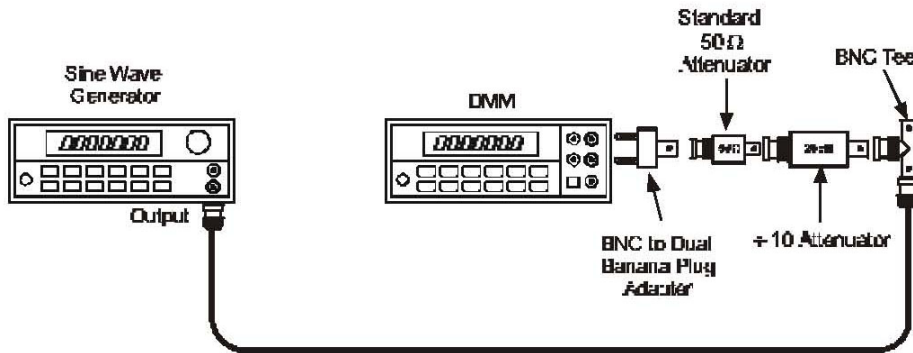

Figure 11, X10 Gain Accuracy Test Setup 2.
- Connect the 50 Ω termination end of the termination/attenuator/ BNC Tee combination on the sine wave generator cable to the Banana Plug adapter on the DMM. See Figure 11.